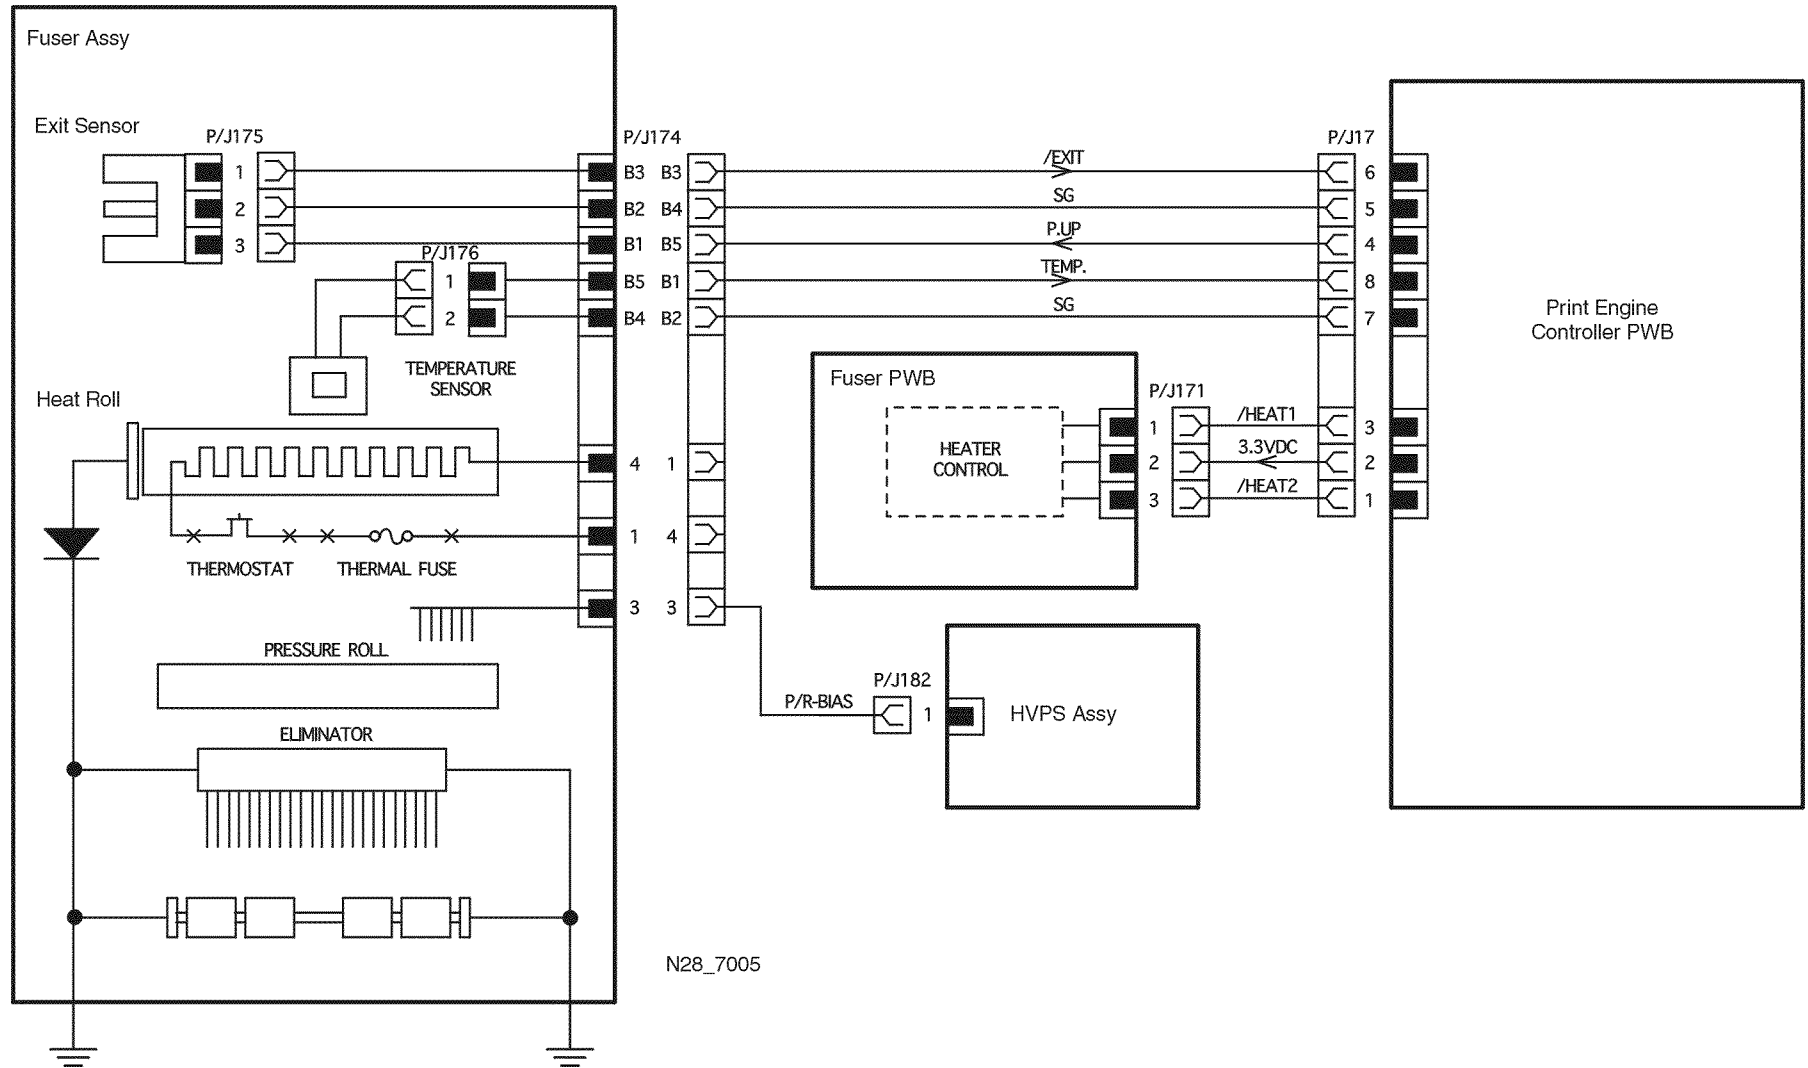

Figure 4 Print Engine Controller PWB-Fuser Assembly, Fuser PWB
2. Print Engine Controller PWB<-->FUSER ASSEMBLY, FUSER PWB (Figure 4, Table 3, Table 4, Figure 5)